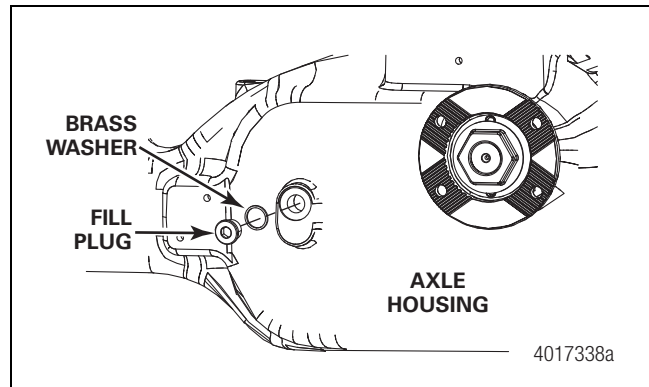

Figure 19.10
2. Remove the fill plug and brass washer from the axle housing. Figure 19.10.